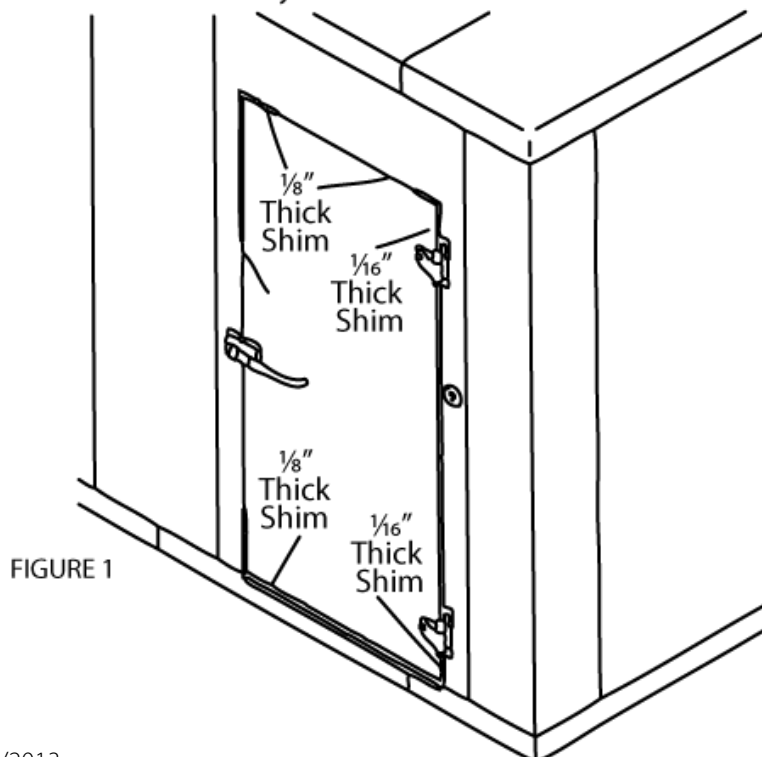

FIGURE 2
3. Remove the 1/4-20 screws from the top hinge only. The bottom hinge and magnetic gasket will hold the door in place (See Figure 2 if tamper proof screws have used to fasten hinge).